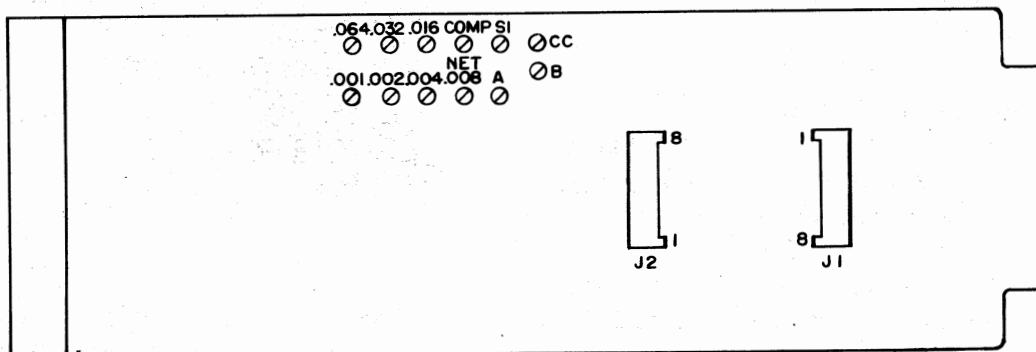
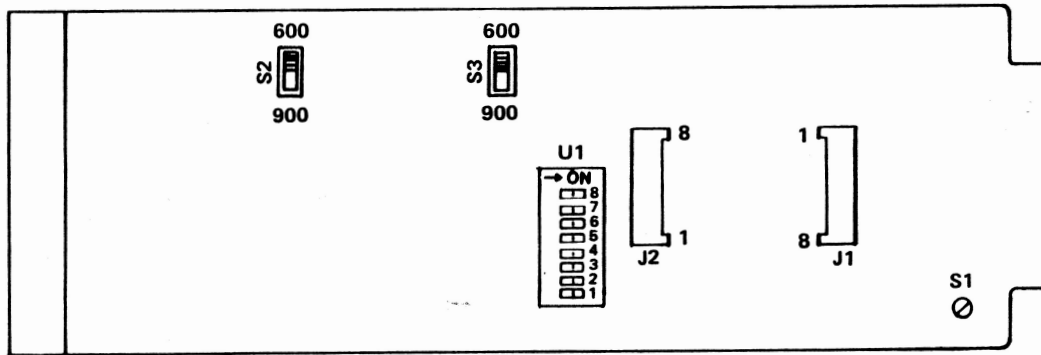

Figure 4. 6683 and 6684 Option Location Chart
Figure 5. 6685 Option Location Chart
6.01 The 6683 and 6684 are provided with screw options to add NBO capacitance, to connect the compromise balance network, to connect capacitors across the A and B leads, and to bypass the A- and B-lead isolation inductor. The 6685 is provided with an 8-section DIP switch to add NBO capacitance and connect the compromise balance network. It is also provided with two slide switches for arranging the term set for either a 600- or 900-ohm 2-wire impedance. The 6683, 6684, and 6685 are each provided with connectors on the printed circuit board for mounting an optional precision balance network subassembly. Instructions for using each of these options are given in the following paragraphs. Refer to Figure 4 for a drawing showing the relative locations of the option screws and subassembly connectors on the 6683 and 6684 Printed Circuit (PC) boards. Refer to Figure 5 for a drawing showing the location of the DIP switch, the 2-wire impedance slide switches, and subassembly connectors on the 6685 PC board.